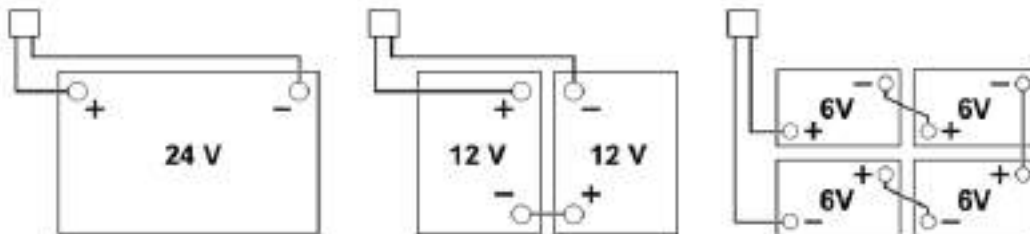

Figure 12
7. Route and install the battery cables as shown in the diagram (Figure 12 and 13), connect the negative cables first, then connect the positive cables. For Lead-acid batteries, carefully tighten the nut on each battery terminal. And for Li-ion batteries, carefully tighten the screw on each battery terminal (M6 screw with 3.9Nm and M8 screw with 9Nm). Please refer to "Lithium Ion Battery Module Service Manual" (56043180) and "Installation Instruction for SC650 LITHIUM ION W/ICC STANDARD KIT" (55943396) for details.
connected according to the diagram shown in Figure 12.